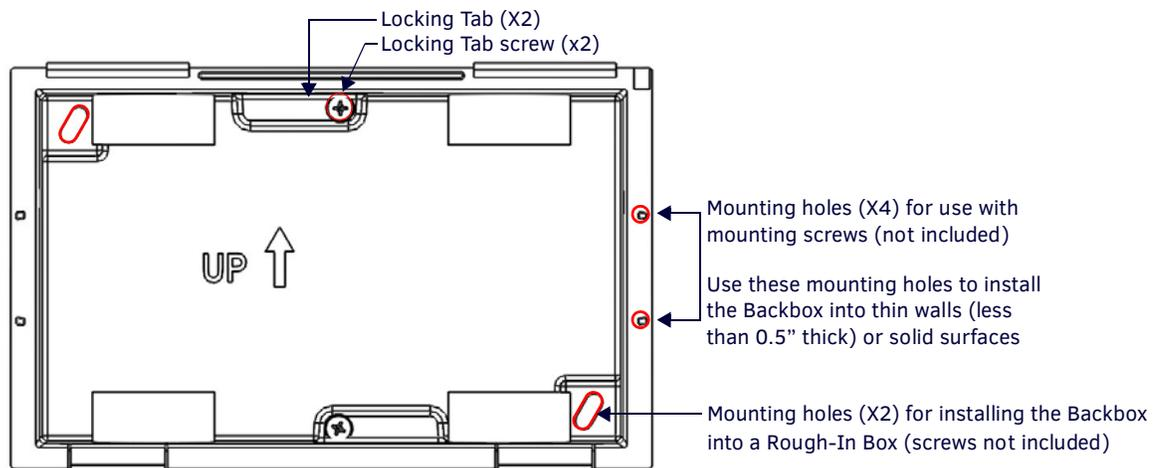

FIG. 22 7" MODERO S Backbox (Front View)
- FIG. 22 shows the Backbox for the MSD-701-L/2: